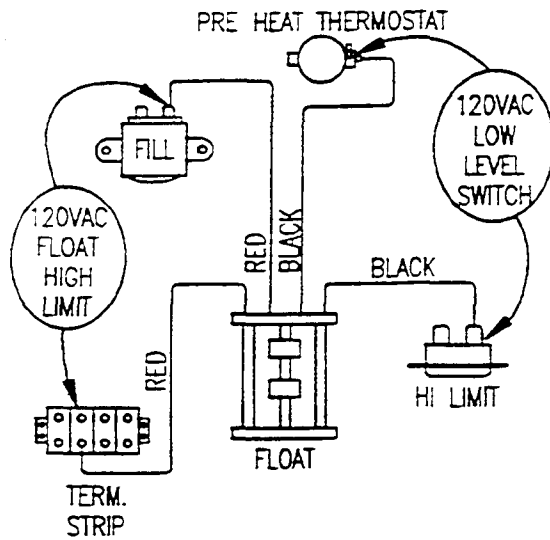

Figure 6-16. Float Assembly and Components
- For model 24-CEA-10, refer to Figure 6-16 and connect the voltmeter leads to the black wire connections at the high temperature limit switch and the pre-heat thermostat.